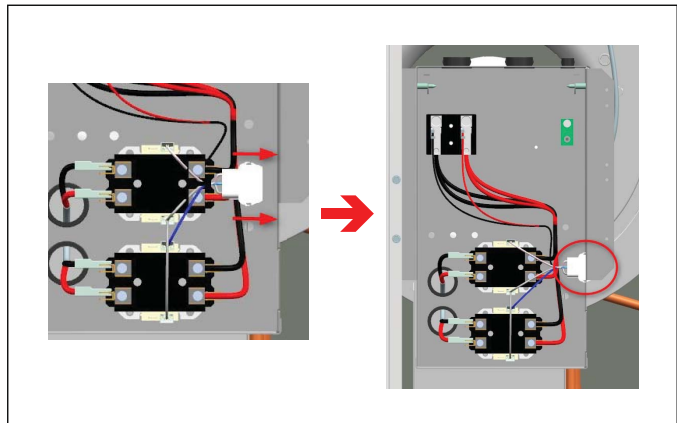
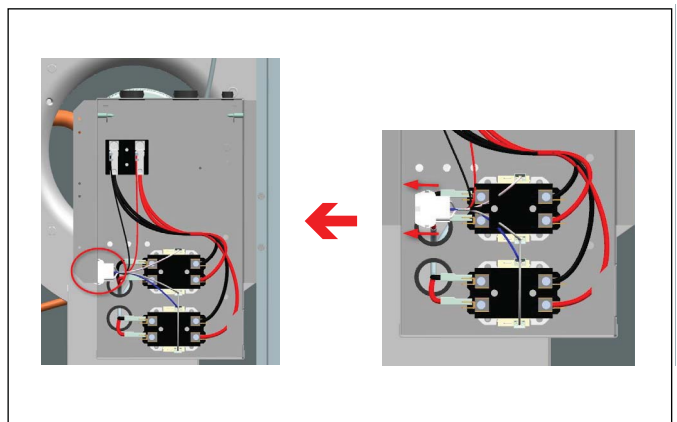

Figure 32 J39 Connector Right Hand Configuration
Figure 33 J39 Connector Left Hand Configuration
3. Line up the J39 connector, and insert into mounting slot. Figure 32 shows connection for right hand configuration. Figure 33 shows connection for left hand configuration.